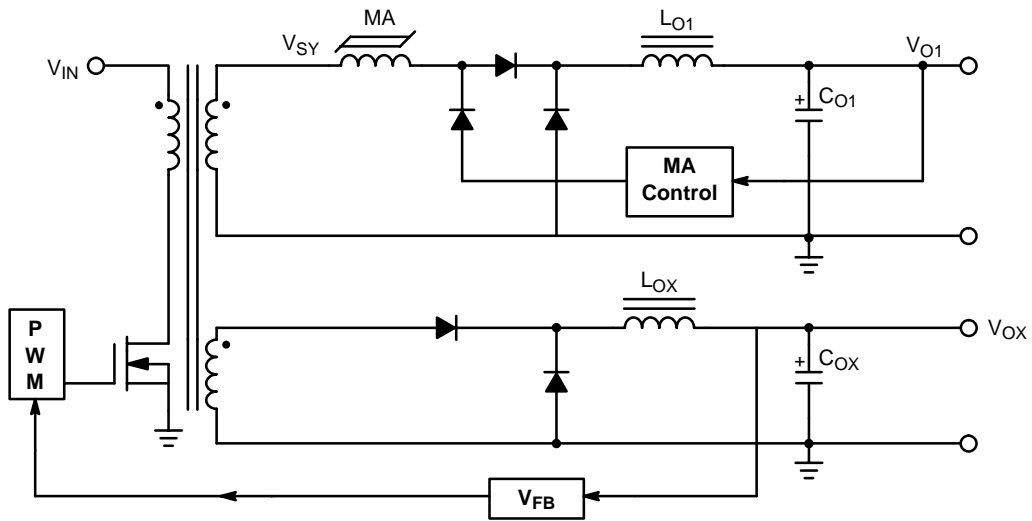

Figure 3. MAGAMP
3. A Magnetic Amplifier Post Regulator, Figure 3, offers high efficiency and tight regulation for output currents greater than 5.0 A .